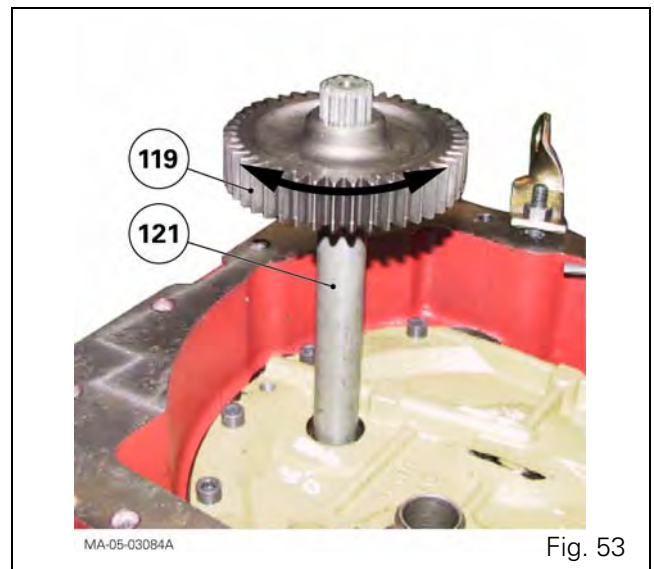

Fig. 53
If the measured dimensions are outside these tolerances, manually turn the gears using the reverse driving pinion (see Fig. 53), then repeat the measurements. If the dimensions are still incorrect, check that the selector rails and synchronisers have been fitted correctly.
If this is the case, position the shaft (121) and reverse transfer pinion (119) and slowly run the gearbox while engaging the range (Fig. 53).